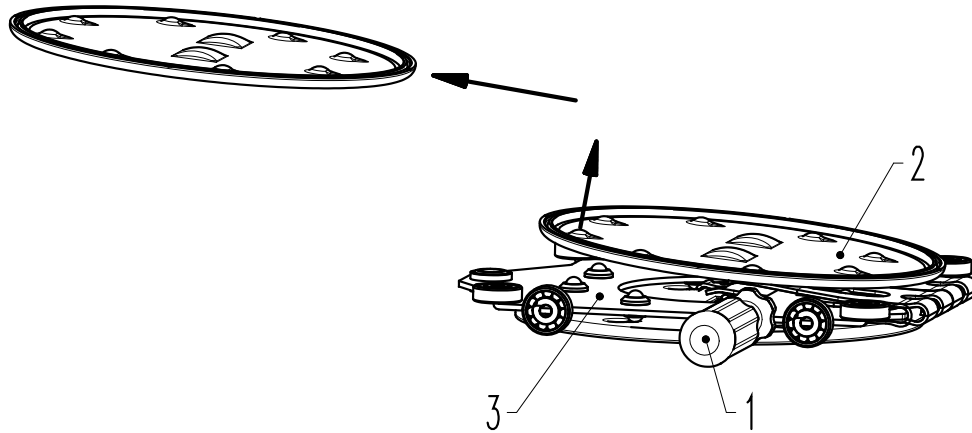
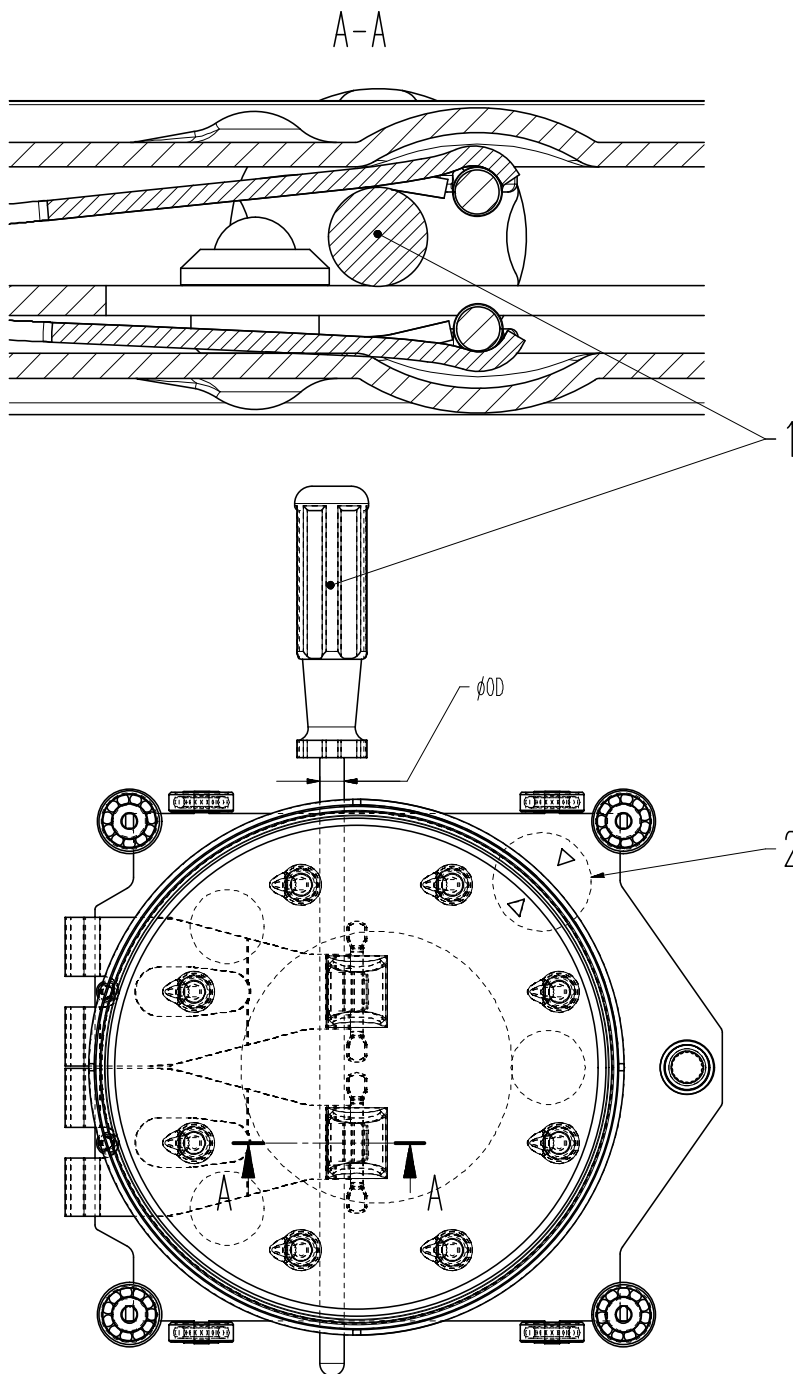

Figure 7-4
Figure 7-5
For dismounting and mounting the valve gate always use tool (1) according to «Figure 7-4». The tool may be ordered from VAT.
13. Lift valve gate (2) by hand and insert tool (1) between valve gate (2) and ball guidance (3); see «Figure 7-4» and «Figure 7-5» on page 23.
14. Remove valve gate in direction of the arrow; see «Figure 7-4» on page 22.
The markings Δ and ∇ (2) according to «Figure 7-5» on page 23 on ball guidance and valve gate must face each other.
16. Withdraw tool according to «Figure 7-4» on page 22.